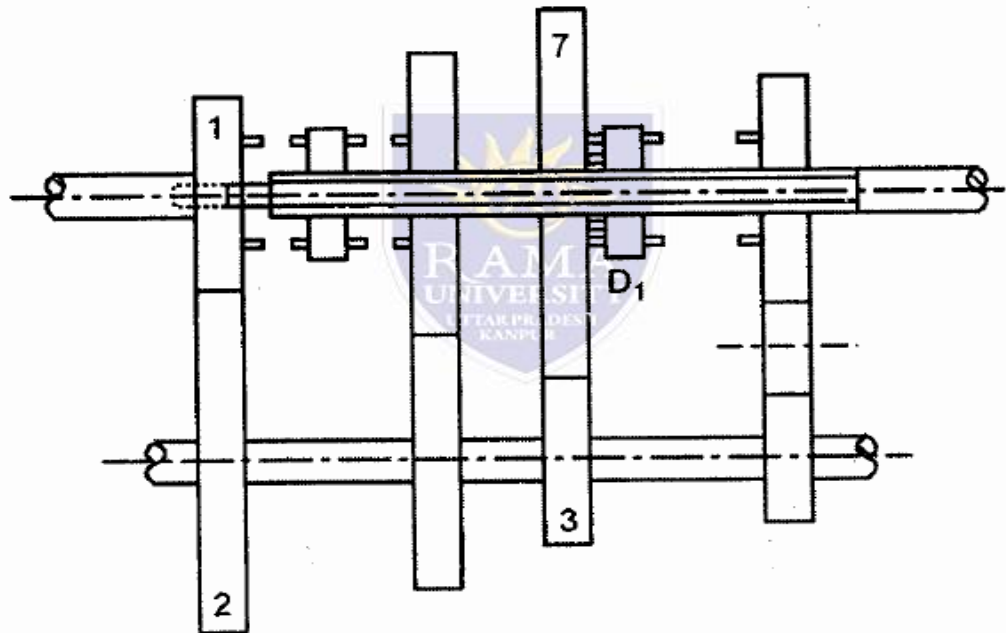

Figure 3.22 First gear of constant mesh gearbox
- The dog clutch (0,) is shifted to left side for engaging on (7), as shown in Figure 3.22. Now, the power is transmitted through the gear (1) => (2) => (4) => (7) to the dog clutch 0, Then, it is transmitted to the main shaft through splines. Hence, the first gear speed is obtained.